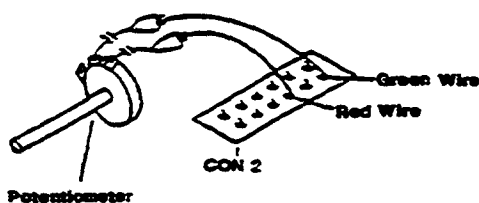

Figure 5-6. Flood Probe Test Connection
3. Refer to Figure 5-6. With the probe disconnected, connect the potentiometer between the common (green) wire and red wire that leads back to CON 2.